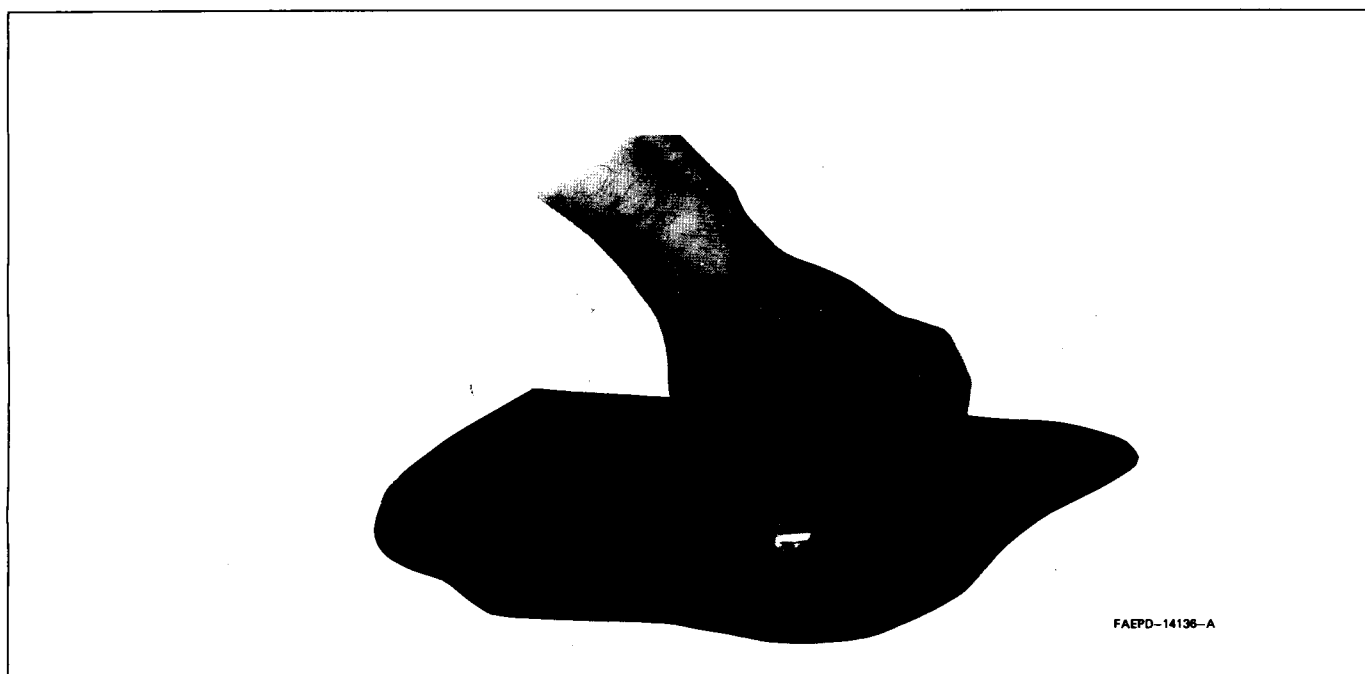

Figure 8. Locking Nut Tightening
Step 7. Pull up on the bushing assembly as illustrated in Figure 8, and make sure it is centered and seated (both shoulders inside the drilled hole), and that the "O" ring is in the groove in the locking nut. (As furnished, the "O" ring has been placed in the locking nut groove and imbedded in silicone grease.) Tighten the locking nut until it bottoms firmly against the roof top.